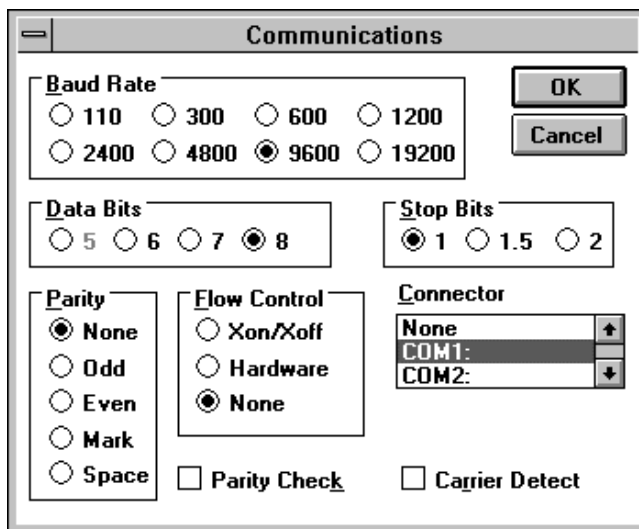

Figure 19 Communications settings
3. From the menu select Settings | Communications... Set the communications settings as shown in figure 19. The Connector setting in the figure is set to COM1, match this setting to reflect the